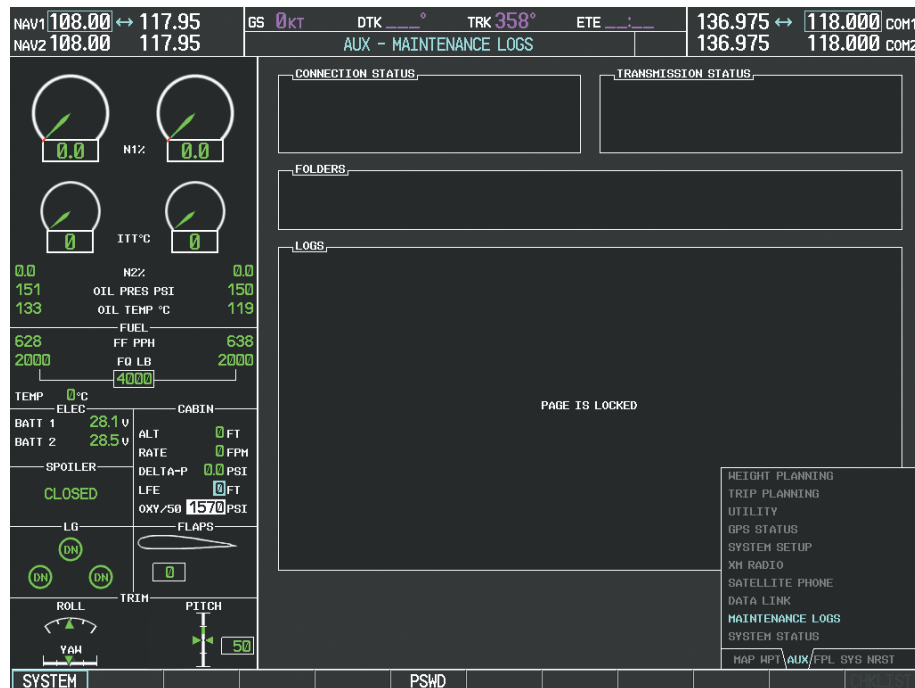

Figure 8-113 Maintenance Logs Page
- 2) Turn the small **FMS** Knob to select 'MAINTENANCE LOG', as seen in Figure 8-113. The AUX-MAINTENANCE LOGS Page is now displayed.